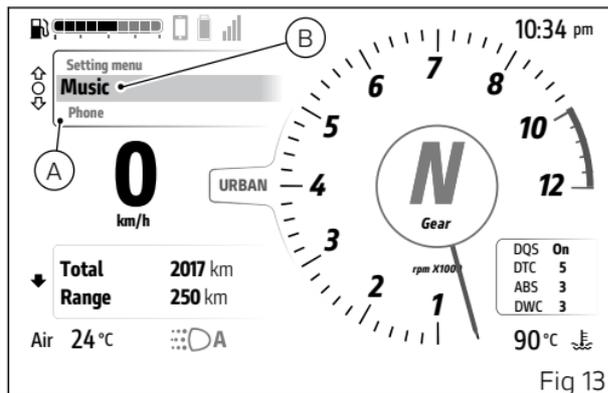

Fig 13
- Select the Interactive Menu (A, Fig 13) by pressing and holding button (1) pressed for a long time.
- Use buttons (1) and (2) to select item "Music" (B, Fig 13) and press the ENTER button (3).